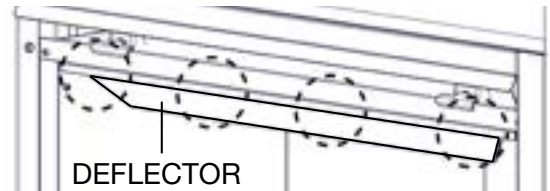

Fig. 1
- To ease assembly, remove the 4 hex head screws, securing the deflector from inside the top front of the firebox (**Fig. 1**).